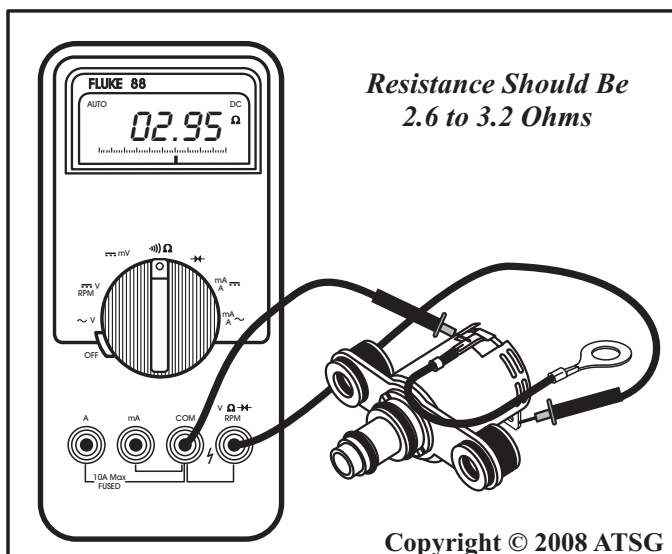

Figure 91
10. Check the line pressure solenoid for the proper resistance, as shown in Figure 91.